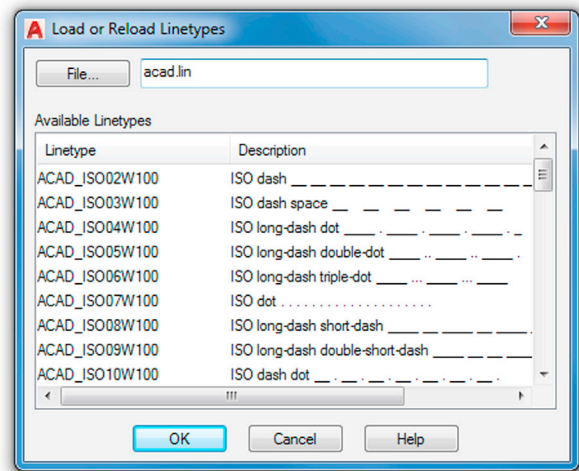

FIGURE 3.8 Load or Reload Linetypes.
- Step 2.** Press Load... The Load or Reload Linetypes box comes up (Fig. 3.8).